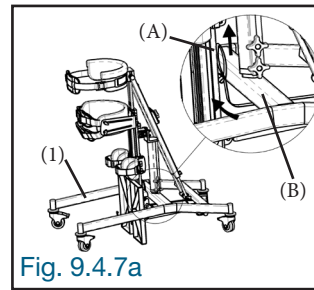
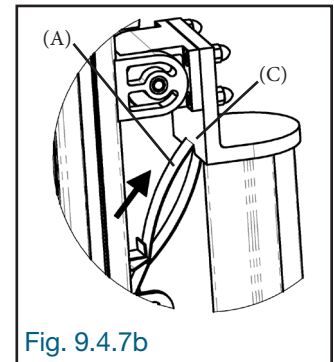
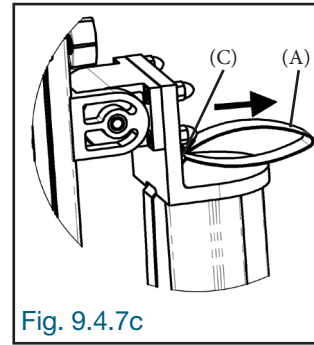

Fig. 9.4.7a
Fig. 9.4.7b
Fig. 9.4.7c
9.4.7 Pass the activation strap (A) of the jack under the central crossbar (B) of the base (1) and pull it up (Fig. 9.4.7a). Insert the activation strap (A) into the slot (C) (Fig. 9.4.7b). Pull the strap (A) so that the handle of the strap is completely disengaged from the slot (C) (Fig. 9.4.7c).